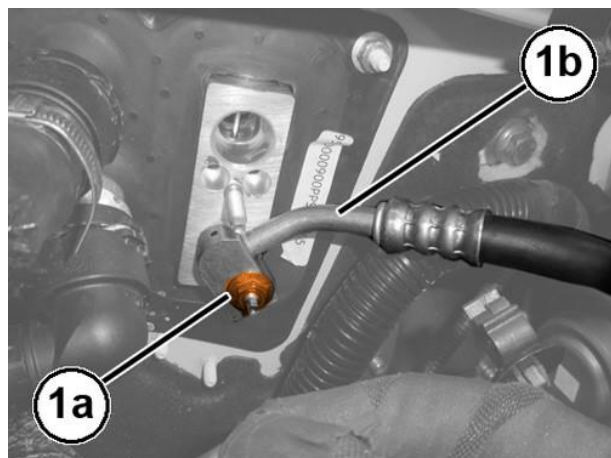

Figure 61 – Refrigerant Pipe
53. Remove the nut (1a) attaching the delivery pipe union (1b) to the condenser (Figure 61).